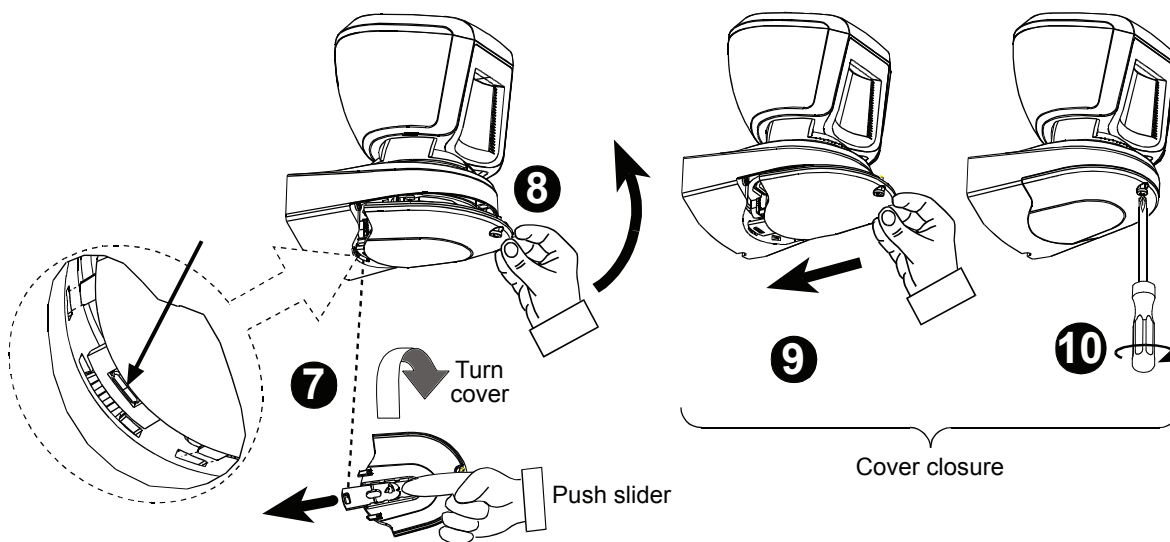

Figure 5 - Adjustment and Cover Closure
B. Adjust detector's horizontal and vertical angles (see Fig. 5), according to the surveyed ground surface. The vertical angle indicator position for various installation height and coverage distance combinations is detailed in Table 2 (the information refers to a relatively flat surveyed area. however, in any case the vertical adjustment should be verified by walk-test).
3.6 Cover Closure (see Fig. 5, steps 7-10)